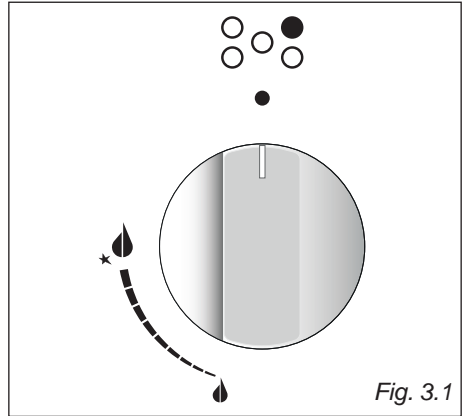
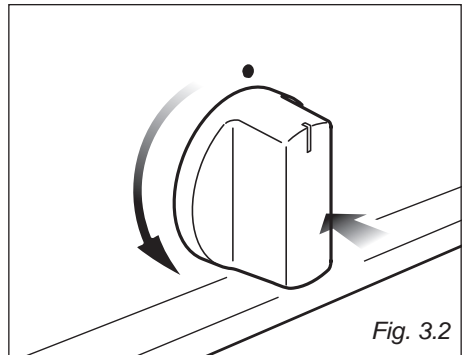

Fig. 3.1
Fig. 3.2
- Remove the screw securing the cover “A” on the rear of the cooker (fig. 3.2).
Gas flow to the burners is adjusted by turning the knobs (illustrated in fig. 3.1) which control the safety valves. Turning the knob, so that the indicator line points to the symbols printed on the panel, achieves the following functions:
1. Press in the corresponding knob and turn counter-clockwise (fig. 3.2) to the full flame position marked by the  symbol (fig. 3.1); hold the knob in until the flame has been lit.